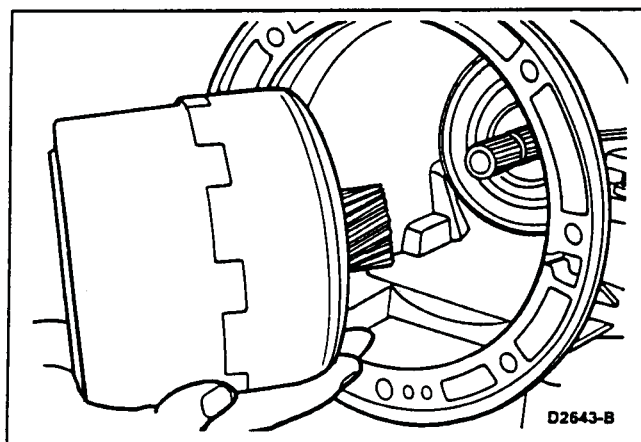

FIG. 21 Intermediate Brake and Forward Planet Assembly Removal
2. Remove the intermediate brake and forward planet assembly including thrust washer No. 8, (Fig. 21).